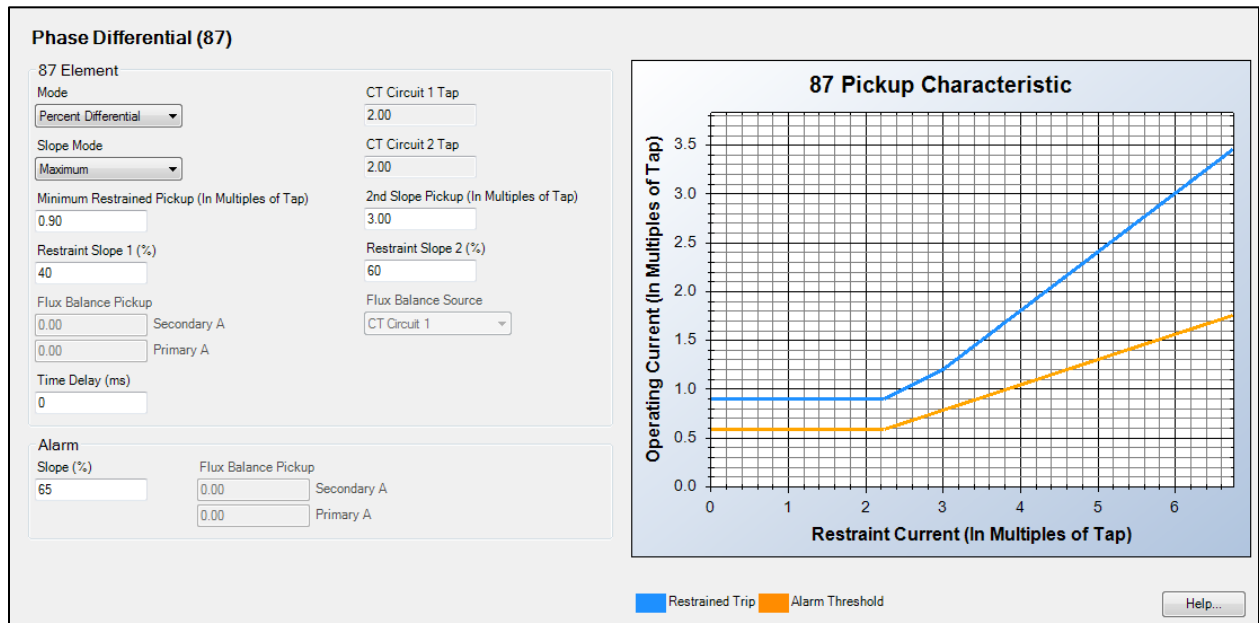

Figure 15-2. Phase Current Differential Settings Screen
Phase current differential element operational settings are configured on the Phase Current Differential (87) settings screen (Figure 15-2) in *BESTCOMSPlus*. A legend for the chart (Figure 15-3) is shown by clicking the Help button on this screen.